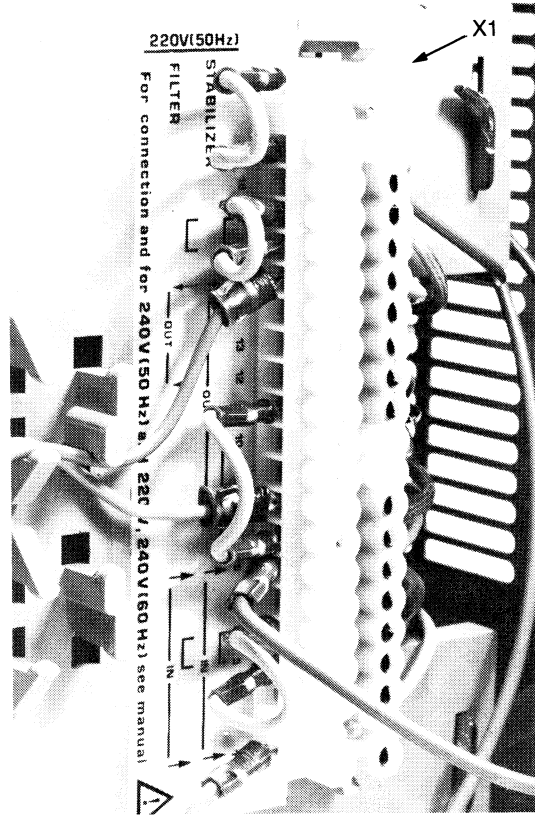

FIG. 201
4.5. MAINS INPUT (see fig. 201)
4.6. OUTPUT (see fig. 201)